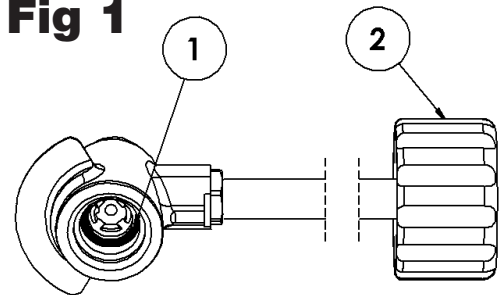

Fig 2
4. SAMLING AF APPARATET (fig. 2)
- 4.3 Anbring ventilen præcist oven på patronen (som vist på fig. 2).
4. ASSEMBLING THE APPLIANCE (fig.2)
- 4.3 Place the valve squarely on top of the cartridge (as shown in fig .2).